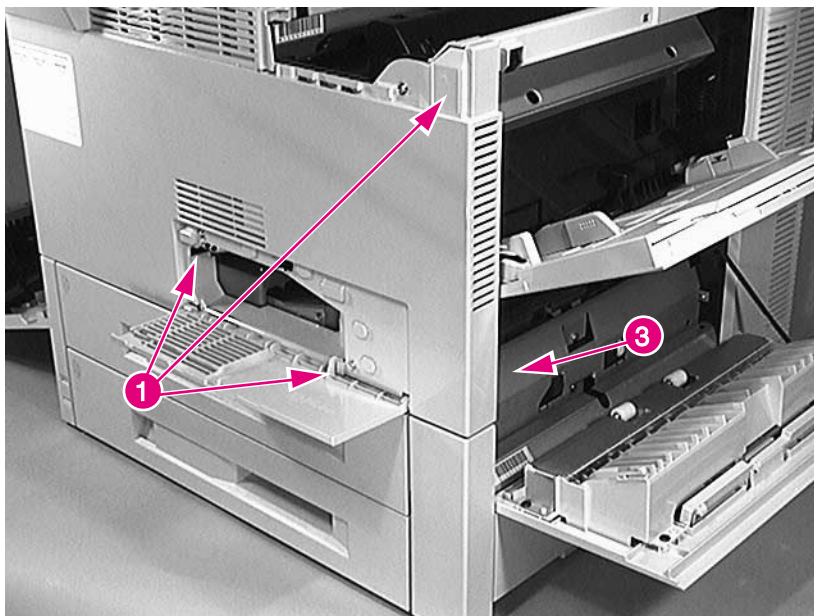

Figure 6-7 Front Cover (1 of 2)
- 2 Open the front access door, and remove 3 screws (figure 6-7, callout 1).
- 4** Carefully pull the bottom of the cover away from the chassis while moving it to the right to release the retaining tab (figure 6-7, callout 3).
- Front Cover (see figure 6-7 on page 274)